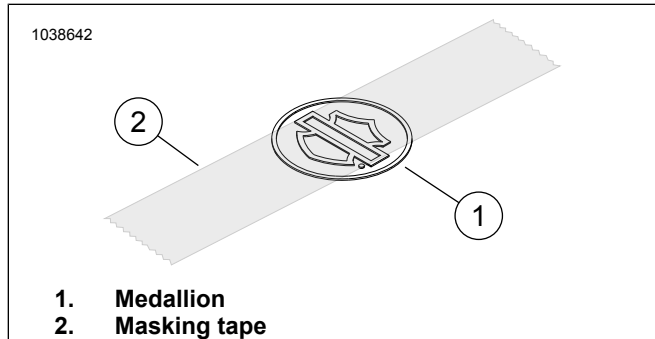

Figure 1. Apply Tape to Medallion
- See Figure 1. Place a 3-inch piece of masking tape centered over the bar and shield of the medallion.